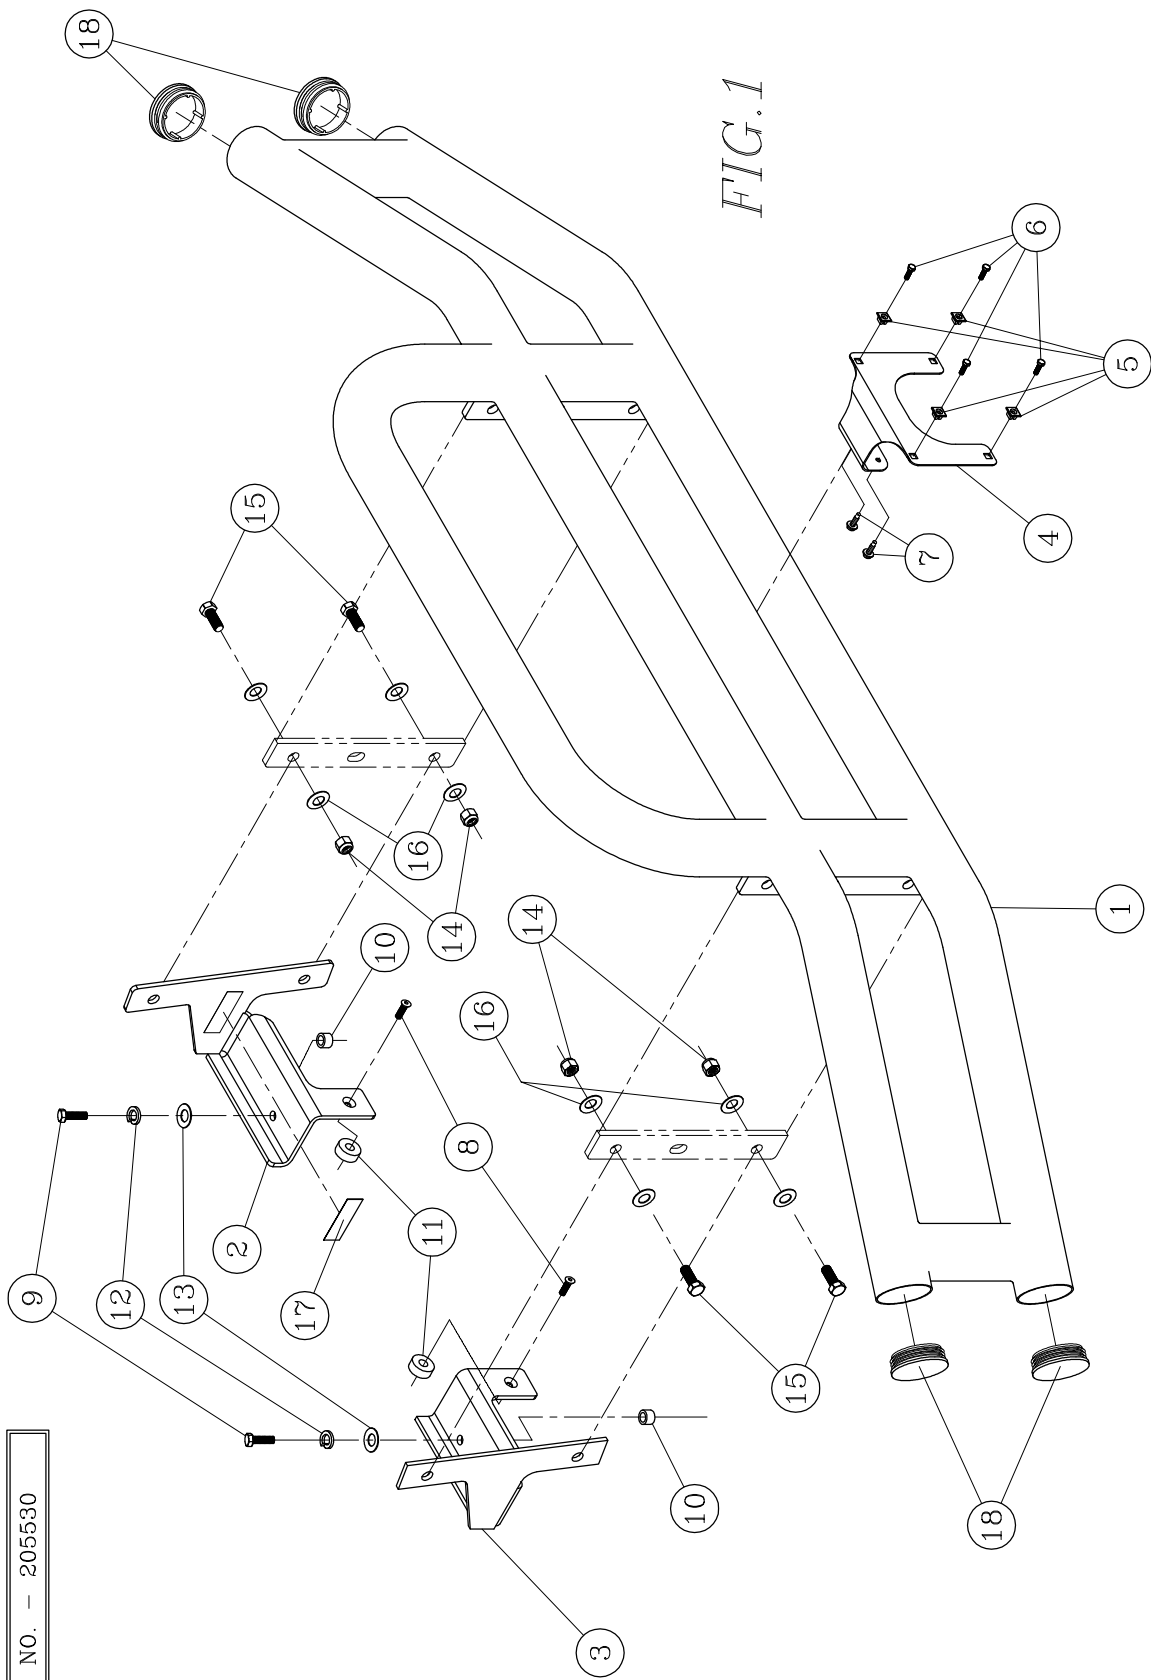

FIG. 1
1. REMOVE FACTORY LICENSE PLATE BRACKET, SHOWN IN FIG.1 AND DISCONNECT WIRE FROM SENSOR.
5. REINSTALL THE LICENSE PLATE BRACKET SHOWN IN FIG. 1. YOU WILL NEED TO CUT TWO NOTCHES OUT OF THE TOP EDGE OF THE PLASTIC STARTING AT 2" FROM BOTH SIDES AND CUT THROUGH TO 4.5" FROM BOTH SIDES. CUTTING THESE NOTCHES OUT WILL LET THE ORIGINAL LICENCE PLATE BRACKET TO LAY FLAT IN THE FACTORY POSITION. ALSO MAKE SURE PLUG THE SENSOR WIRE BACK INTO THE SENSOR.